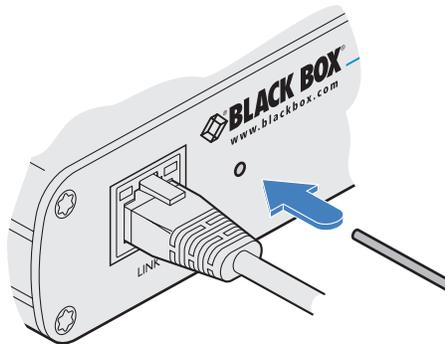

Figure 4-2. Press and hold the recessed reset button for approx 10 seconds.
4. On the front panel of the local module, use a small implement or straightened paperclip to press and hold the recessed reset button for approximately 10 seconds. See Figure 4-2.